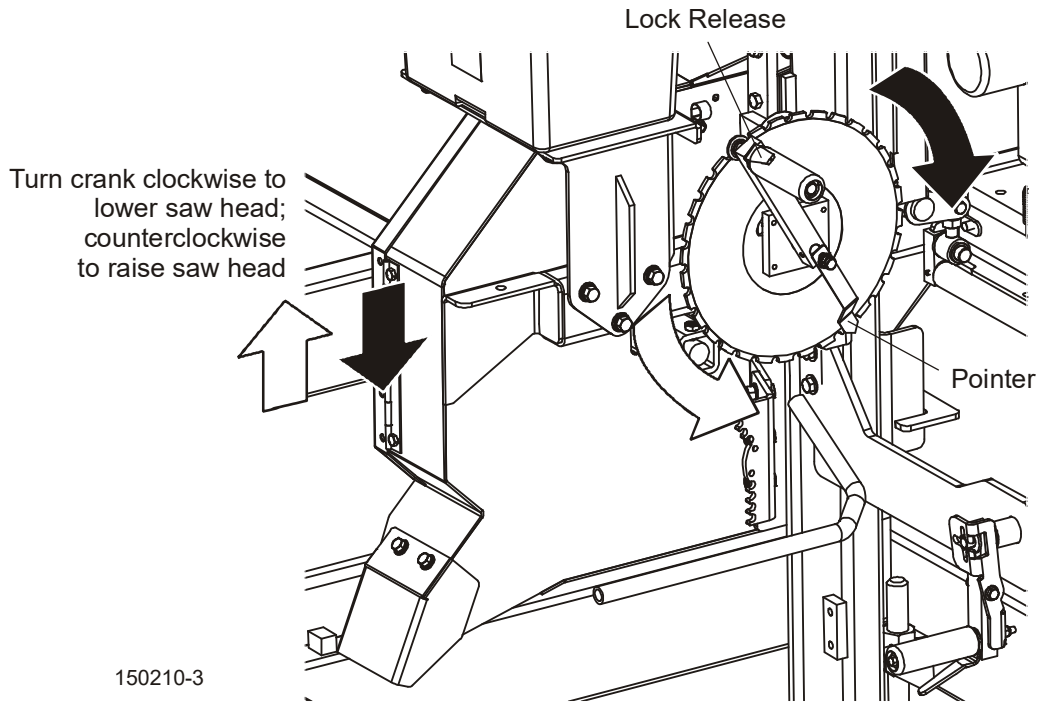

FIG. 6-4
6. Use the pointer and the round up/down blade height scale for quick reference when cutting. See FIG. 6-4.